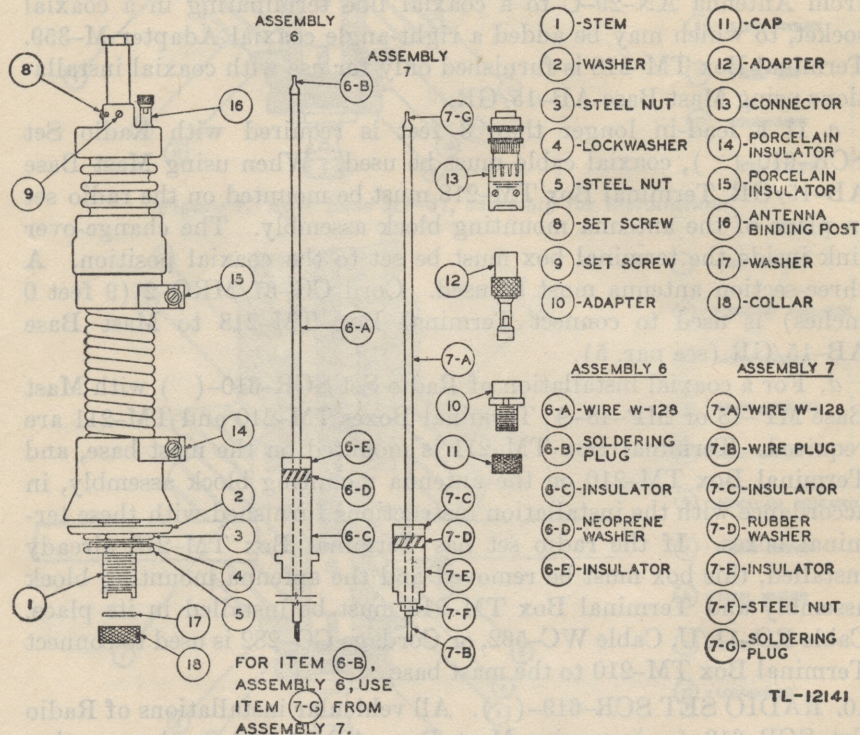

Figure 1. Mast Base MP-48, assembly for installation.
3. MAST BASES MP-48 AND MP-48-A. *a.* Mast Base MP-48 is normally furnished with an internal assembly that has coaxial fittings (assembly No. 7, fig. 1), an upper external binding post (item 16), and a binding post adapter (item 12) that fits into the coaxial fitting at the bottom. A coaxial cable to be used with this mast base should terminate in Amphenol Connector AN-3106-14-3ST (item 13) (stock No. 2A2088-48/C4) or in coupling, Lapp No. 26243 (stock No. 2Z3291-7). In installations using the upper binding post, the internal assembly should be removed in all cases. If an installation requires the use of the bottom binding post and the binding post has been removed from the mast base to be used, the internal assembly may be removed and the wire fed through the mast base, as shown in assembly No. 6, (fig. 1). Installation of the bottom binding post is made by securing internal assembly No. 7 (fig. 1) in the mast base and locking